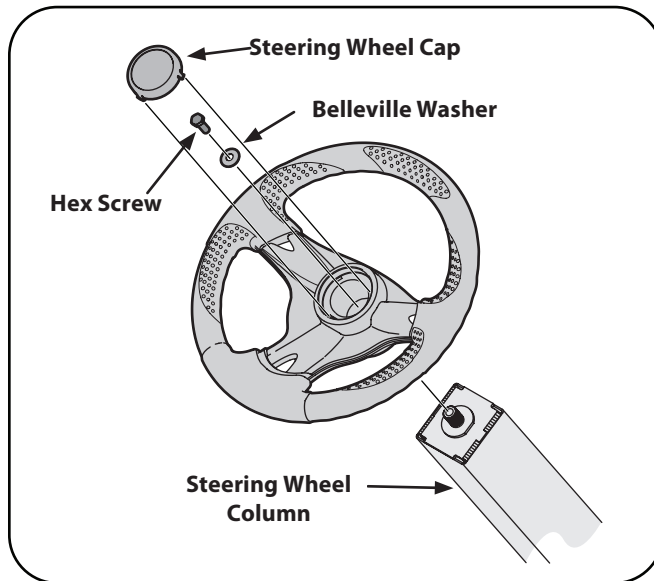

Figure 3-3
3. Place the belleville washer over the steering wheel and secure with the hex screw. See Figure 3-3.